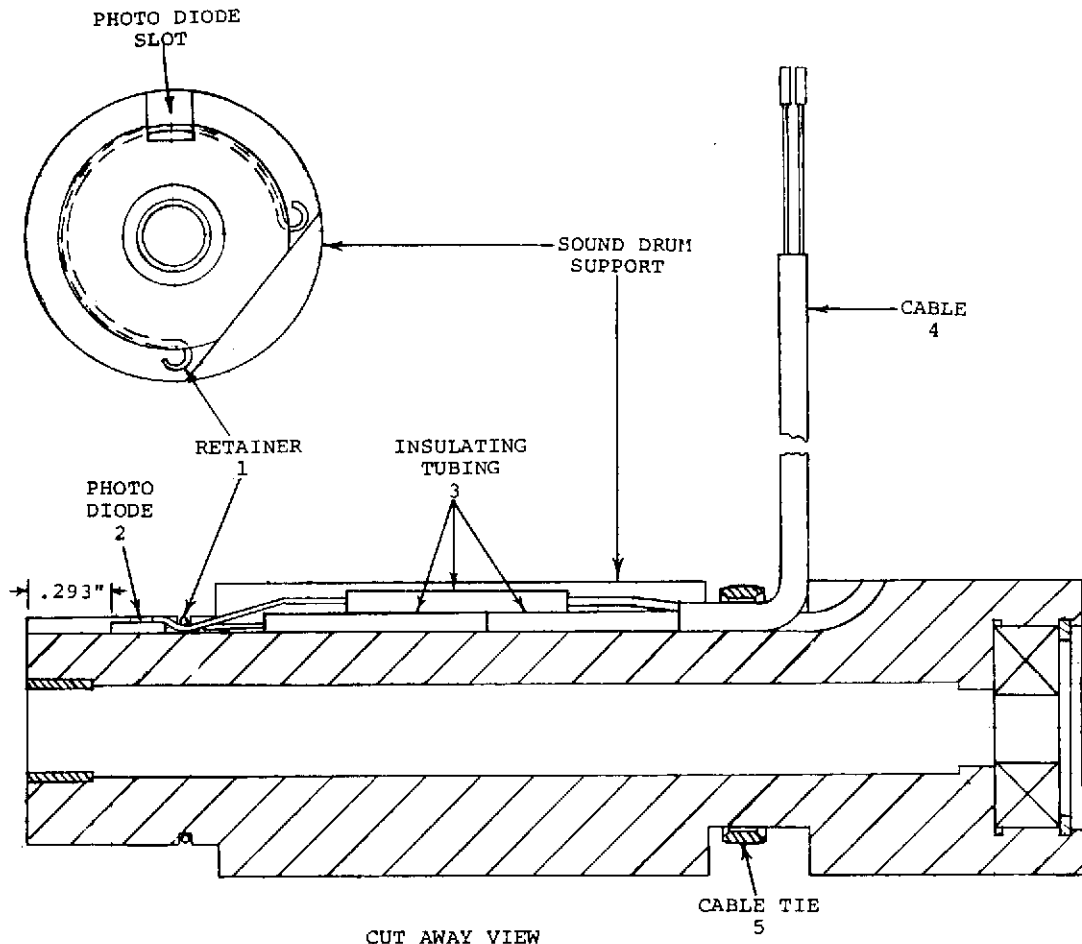

Figure 3-14. REPLACING PHOTO DIODE CHIP IN SOUND DRUM SUPPORT
Replacing Photo Diode Chip in Sound Drum Support (Figure 3-14)
2. Remove Retainer (1) Photo Diode (2) out of slot. Clip leads and discard Diode.
3. Remove Insulating Tubing (3) and unsolder remaining portion of Diode leads.
5. Position new Photo Diode into Slot with shiny, black surface up (red wire) and end aligned with mark made in Step 1. Assemble Retainer (1) to hold Photo Diode in place, orienting Retainer as shown in Figure 3-14. Make sure Photo Diode is perfectly flat in slot. (End of Photo Diode should be .293" -- about 9/32" -- from end of Sound Drum Support.) PHOTO DIODE IS VERY FRAGILE. BE VERY CAREFUL NOT TO BREAK IT!
7. Slide Insulating Tubing on leads of Photo Diode and make sure that the third piece of Insulating Tubing is on Shield of Cable (4). Solder Black lead of Photo Diode to Shield of Cable and Red lead to Center Conductor of Cable. Slide tubing over solder connections (It may be helpful to cut Cable Tie (5) so Cable can be lifted out of Slot for soldering). Dress wires into Slot and replace Cable Tie if cut.